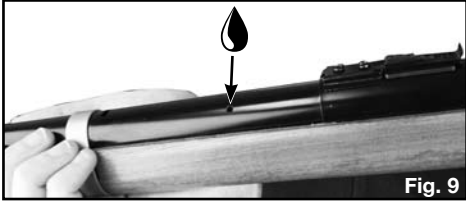

Fig. 9
- Your airgun will maintain proper function longer if you oil it every 250 shots. Put one drop of Crosman 0241 Pellgunoil® in the tube as shown (Fig 9). DO NOT use petroleum distillate based oil or solvent, and DO NOT over-oil as this can cause damage to your gun.